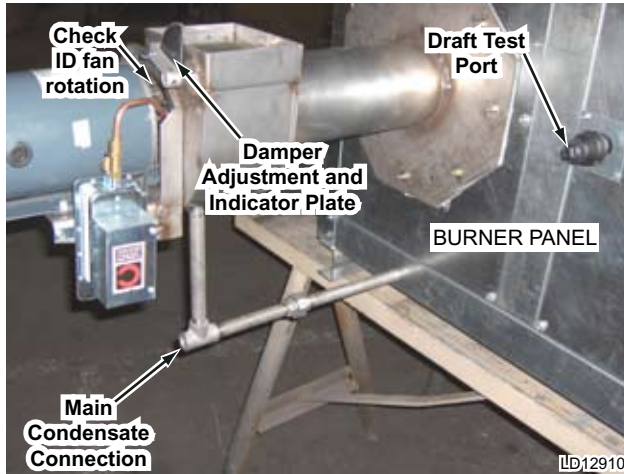

FIG. 3-14 – SET ID FAN DAMPER
- The flue (stack) damper is located at the discharge of the ID blower and closed for shipping. Release the locking mechanism and set the damper to match the position indicated by the scribed markings. Lock in place (see Fig. 3-14).
- Connect a manometer or other suitable device to the Heat Exchanger Draft Port located on the side of the unit near the burner. The expected draft should read slightly negative – about -.03" WC. The draft port is typically made of 3/4" steel pipe and may be plugged. Remove plug and add a small stop valve and a nipple for a rubber tube (see Fig. 3-14 & 3-16).